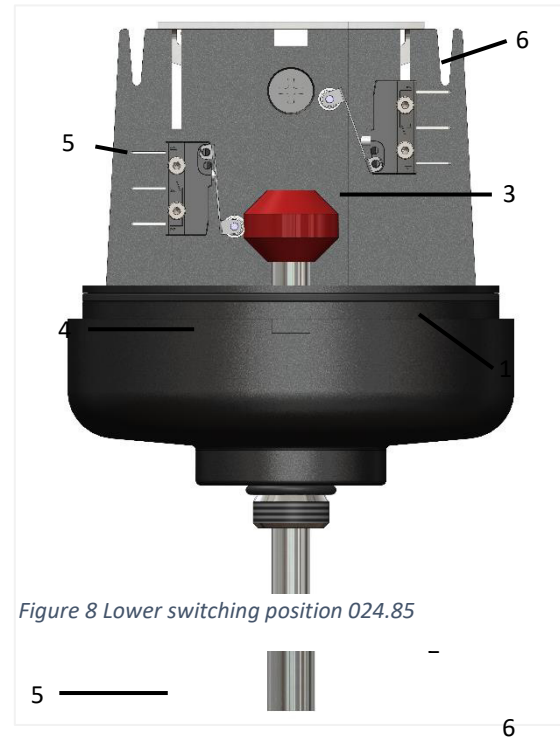
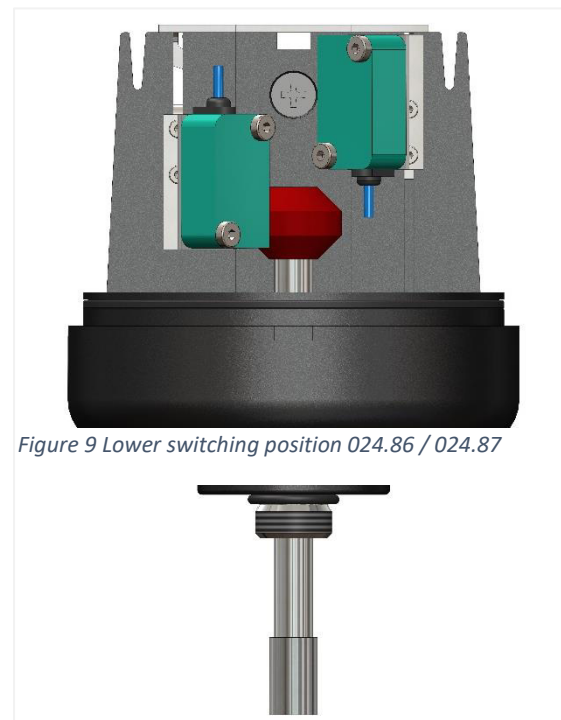

Figure 8 Lower switching position 024.85
Figure 9 Lower switching position 024.86 / 024.87
- Carefully pull the lower part (pos. 1 in Figure 8 over the spindle or cam (pos. 2 or 3 in Figure 8). For type 024.85, be careful not to bend the lower lever of the microswitch. It is recommended to press it manually down during the installation. The assembly set is located inside the position indicator.
- Finally tighten the set screw (pos. 4 in Figure 8) with a torque of 3 Nm.
- Bring the valve in "closed" position. Loosen the lower switch (pos. 5) with a suitable tool and position it in a way that it is actuated when the cam is in the lower end position, see Figure 8. For 024.86 and 024.87 the cam has to be in the sensing area of the sensor. See Figure 9 for a detailed view. Tighten the fastening screws again.
- Bring the valve in "open" position. Now loosen the switch on the top (pos. 6 in Figure 8 / Figure 9) with a suitable tool and position in a way that it is actuated when the cam is in the top end position. Tighten the fastening screws again.
- Mount the cover (pos. 2 in Figure 1) on the lower part (pos. 1 in Figure 8) and fasten it with the screw incl. washer (pos. 3 & 4 in Figure 1).
- Loosen the set screw (pos. 4 in Figure 8) from the housing.
- Carefully guide the lower part (pos. 1 in Figure 8) over the spindle or cam (pos. 2 or 3 in Figure 8).